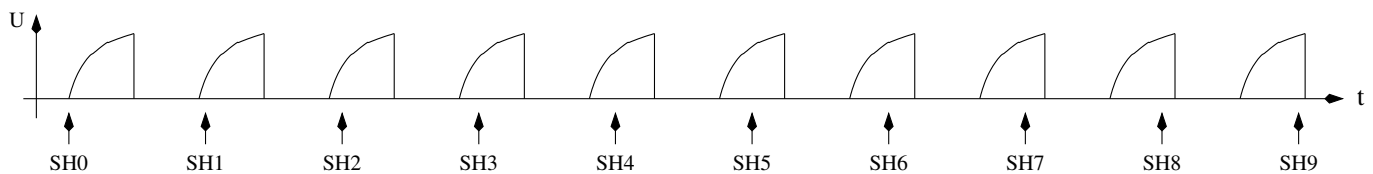

Figure 5.30. Scanning of a voltage curve with the sampling technique
The radio amateur Pieter-Tjerk (PA3FWM) has integrated the measurement capability for very small capacity values ($< 100\text{pF}$) with the sampling technique. The conversion period of the ADC is in fact too long for sampling a fast signal directly. But the voltage of the input signal is hold at a specified time of the conversion cycle, the Sample and Hold (SH) time. The ADC need 13 clock cycles for a total conversion and the ADC clock is build by dividing the processor clock by 128 or 64. The input voltage is fixed at exactly ADC clock number 1.5 for continuous cycles. If the input signal can be generated again and again, we can shift the sample time of the ADC from one to the next signal repetition, so that we get a sample sequence of the fast signal. A normal ADC cycle takes $13 \times 64 = 832$ clock cycles with a 8 MHz processor clock. If we repeat the input signal with a 831 clock cycle, a uninterrupted ADC (free run mode) would sample the signal one processor clock tick later for every following signal repetition. We must make shure with this method, that the first ADC sampling of the signal is done at the requested starting time. The time of the following ADC samples would be shifted by one processor clock tic later for every next signal repetition. If the signal can be repeated exactly, the combined signal of many periods is the same, which would be sampled and converted directly with a ADC running with the processor clock (8 MHz). Figure 5.30 shows the principle of sampling a ten times repeated signal to get 10 samples (SH0 - SH9). In reality the relativ time shift of successive samples is much smaller than shown here.